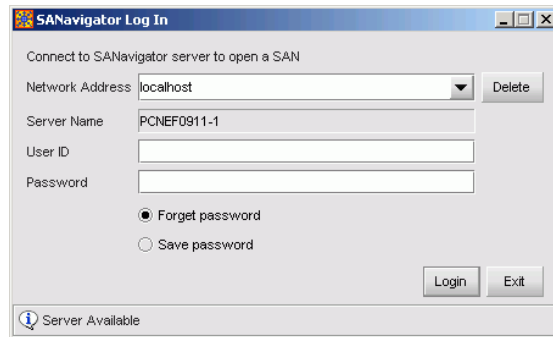

Figure 3-18 SANavigator Login or EFCM Login Dialog Box
- e. After rebooting the server at the LCD panel, log on to the management server's Windows 2000 desktop through a LAN connection to a browser-capable PC. Refer to Access the Management Server Desktop on page 2-55 for instructions. The SAN management application starts and the *SANavigator Log In* or *EFCM Log In* dialog box displays (Figure 3-18).